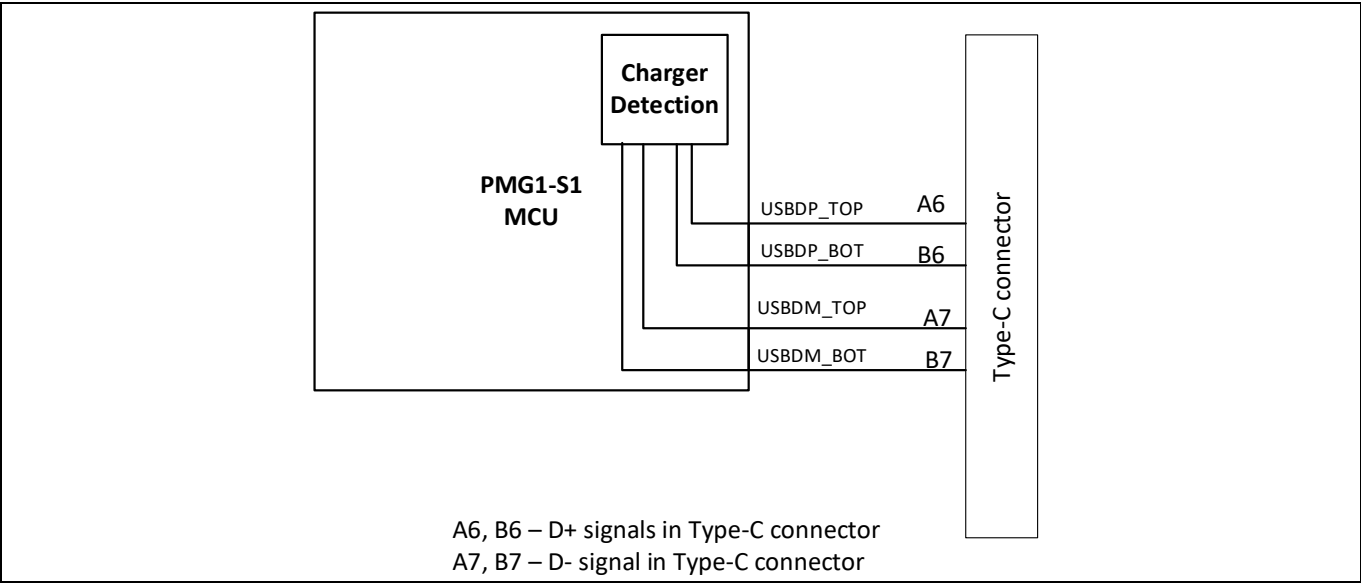

Figure 24 Charger detection in EZ-PD™ PMG1-S1 MCU
- In EZ-PD™ PMG1-S1 MCU, do not short the pins. Route the Type-C connector pins directly to the High-Speed (HS) pins of the MCU (**Figure 24**).